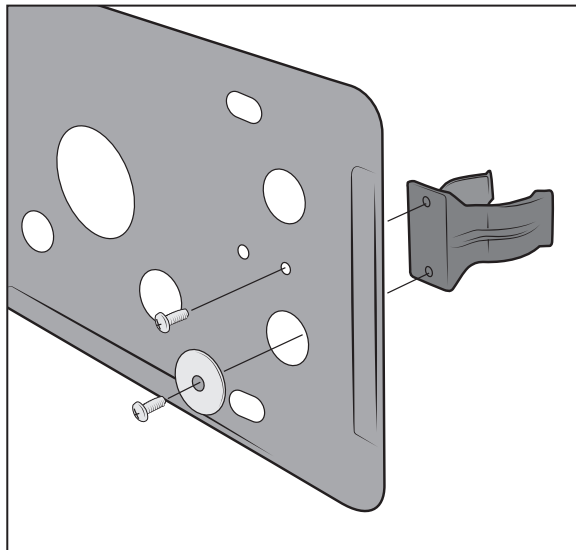

Figure 1
3. Mount the Molded Nylon Spring Clips to the back of the License Plate Holder (Fig 1.)